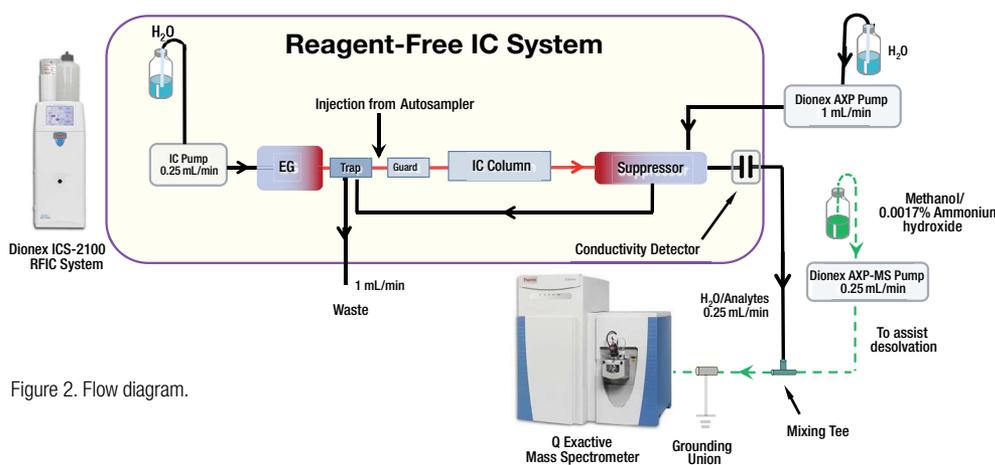

Figure 2. Flow diagram.
3. Install and condition the Dionex EGC III KOH cartridge, Dionex CR-ATC II trap column, guard column, separation column, and the Dionex AERS 500 suppressor according to the Dionex ICS-2100 IC system, Dionex AS-AP autosampler, and consumable product manuals and the flow diagram shown in Figure 2.¹²⁻¹⁷